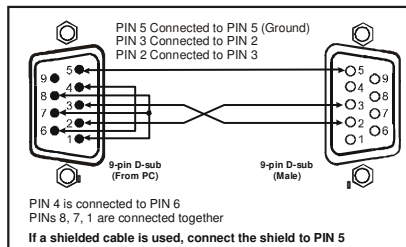

Figure 16: Connecting a PC without using a Null-modem Adapter
- Connect the RS-232 9-pin D-sub port on your PC to the RS-232 9-pin D-sub rear panel port on the Master **RC-108/RC-116** unit, as Figure 16 illustrates